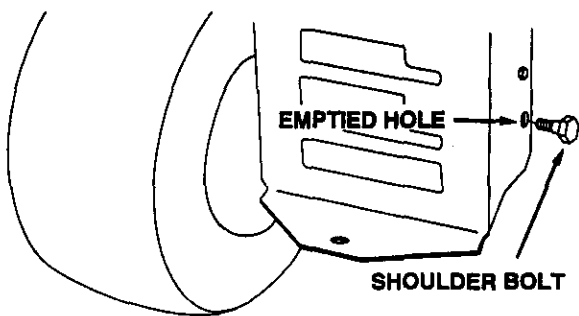

FIGURE 1
### FOR TRACTORS RESEMBLING FIGURE 1:
- Remove the bolt from the hole on each side of the tractor frame as shown in figure 1.
- Assemble the two shoulder bolts to the now empty holes. **Tighten.** See figure 1.